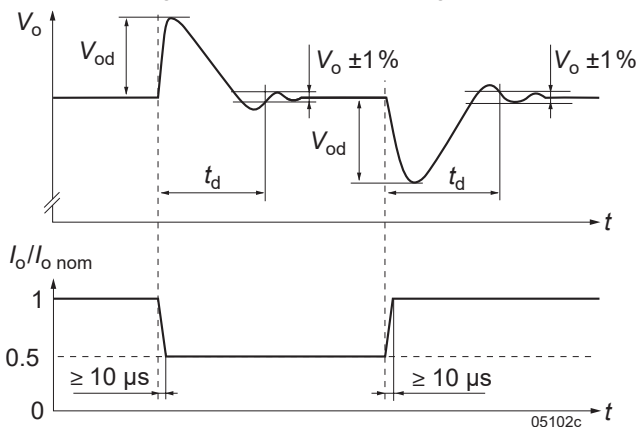

Fig. 5
- ³ Recovery time until V_o returns to $\pm 1\%$ of V_o ; see fig. 5.